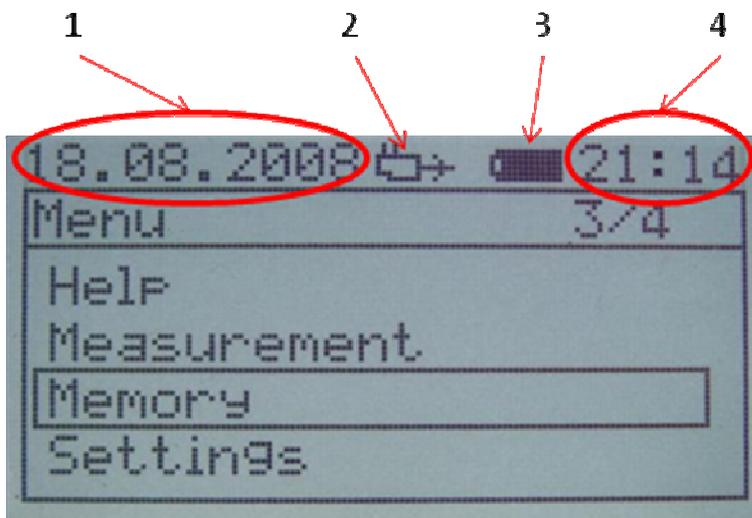

Fig. 1: Start-up screen
As shown in Fig. 1 the connection status is displayed with item 2.
As shown in Fig. 1 the status of the rechargeable batteries is displayed as described in item 3.